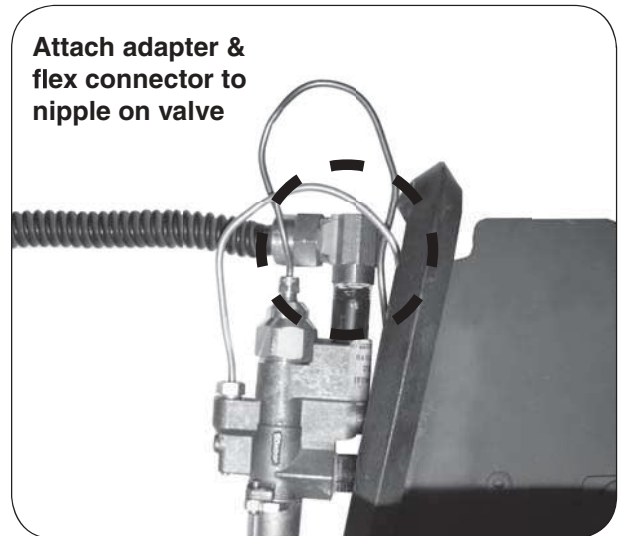

Fig. 11-1 Install flex connector to valve
3. Attach the small adapter (included with burner flex connector kit) to the gas nipple on the control valve using a pipe compound resistant to all gasses. Tighten securely. Then attach one end of the connector to the small adapter. Tighten securely. See Fig. 11-1.